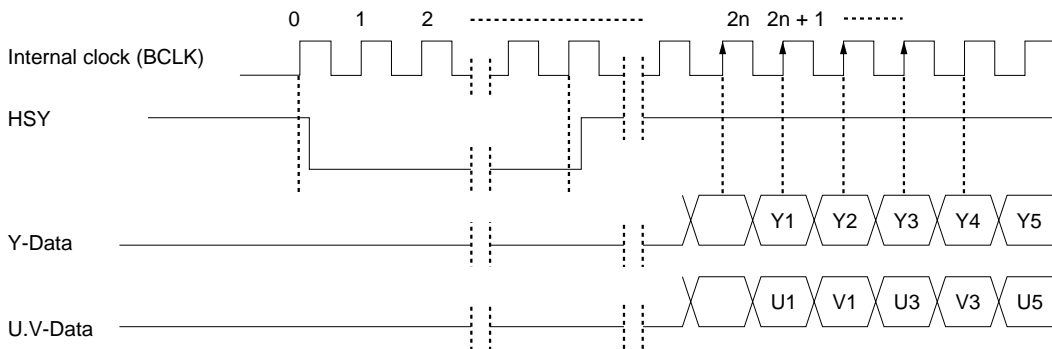

Fig. 26 YUV input timing when TEST[2] = H
- * In the Master mode, HSYNC is output at the timing shown in Fig. 26. For that reason, the timing of U and V should be determined by counting from that falling edge. In the Slave mode, the HSY, U, and V data should be input at the timing shown in Fig. 26.